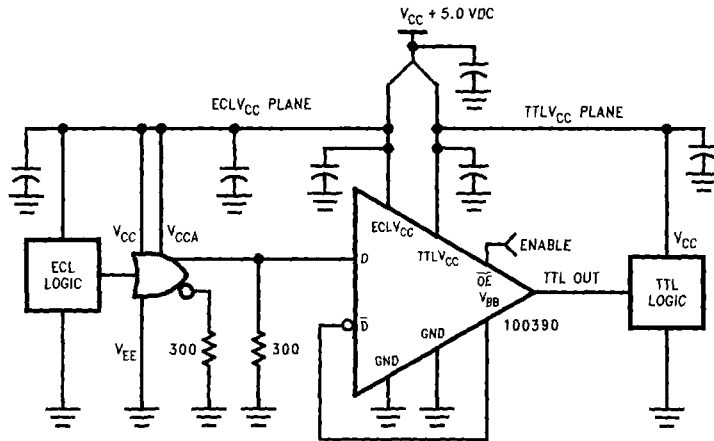

FIGURE 5
7. Figure 5 illustrates typical single-ended input operation.